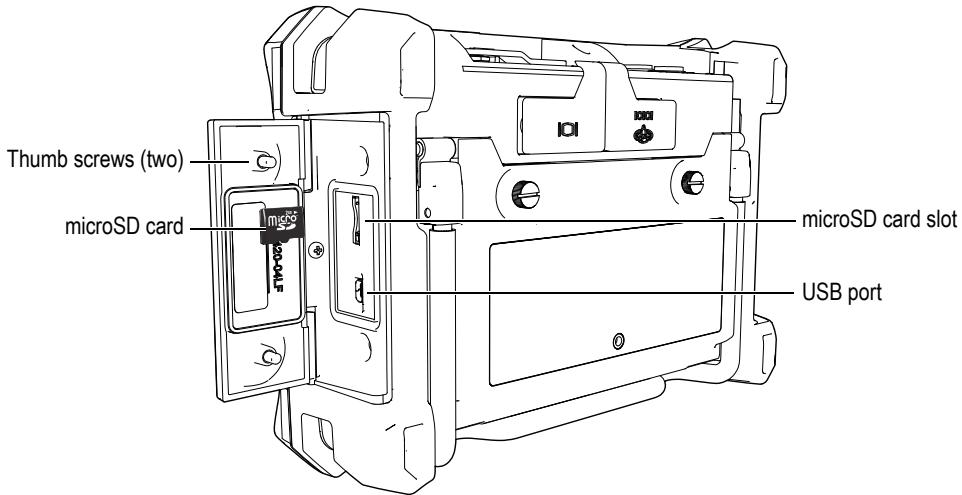

Figure 1-13 Installing the microSD card
2. Loosen the two thumb screws, and then open the NORTEC 600 I/O door (see Figure 1-13 on page 40).